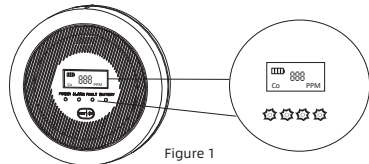

Figure 1
1) Preheating: once power on, the buzzer sounds'Di-',Power, Alarm,Fault and Battery indicators blink once. LCD screen turns on displaying'888PPM'and battery power level(refer to Figure 1). Then 2-min preheating starts with LCD screen displaying countdown from 120 to 0,and Green,Red,Yellow and Blue indicators blinking simultaneously.Detector enters monitoring status after preheating.